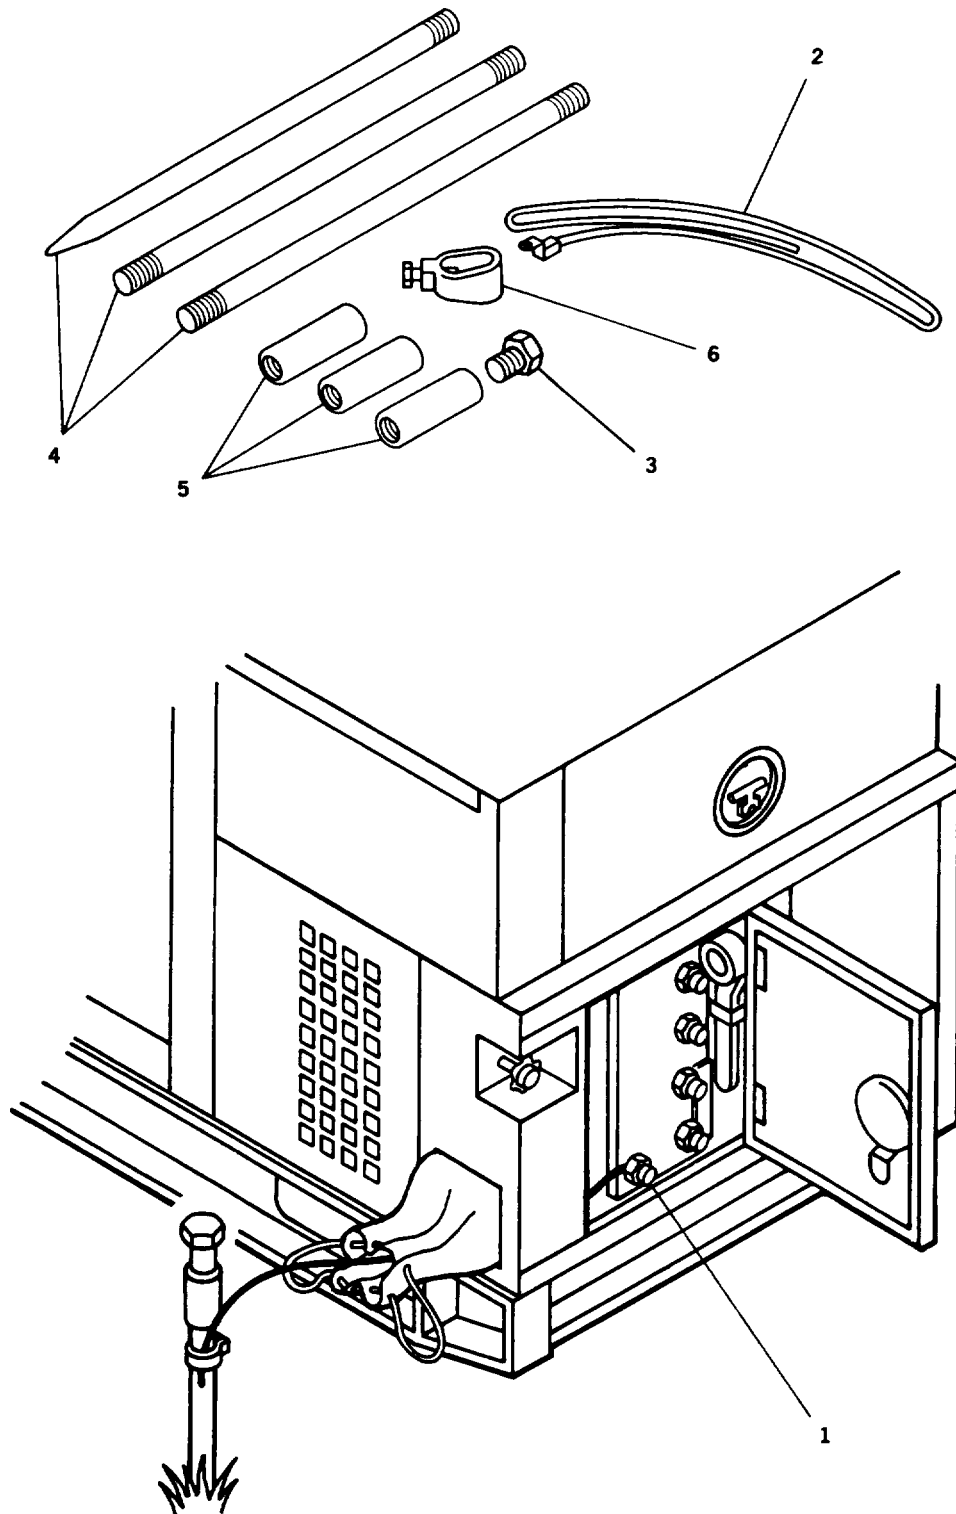

FIGURE 2-4. Grounding Connections
- a. Insert ground cable (2, FIGURE 2-4) through slot on load output terminal board terminal marked GND (1). Tighten terminal nut.
- b. Connect coupling (5) to ground rod (4) and screw driving stud (3) CAUTION into coupling (5). Make sure that driving stud (3) seats on ground rod (4).
- e. Install another coupling (5) and driving stud (3). Drive ground rod down until new coupling is just above ground surface.
- g. Connect clamp (6) and ground cable (2) to ground rod (4) and tighten clamp screw.